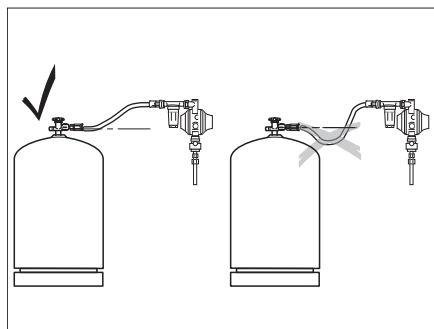

Fig. 249 Laying the high-pressure hose
- ▷ When laying the high-pressure hose, ensure that the hose rises steadily (Fig. 249).